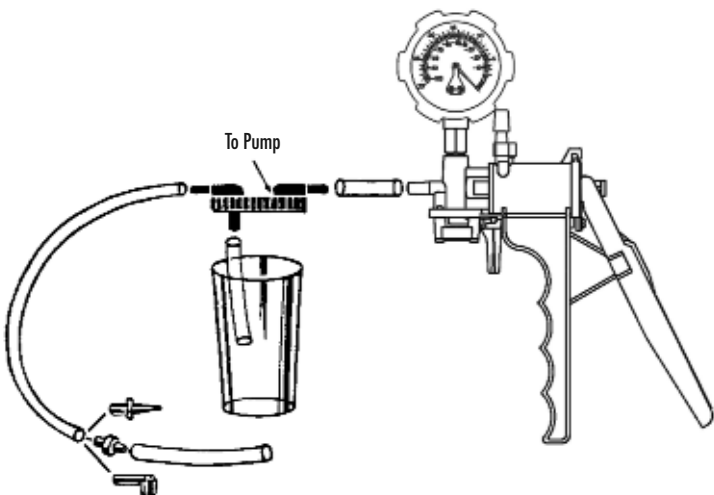

FIGURE 15: BRAKE BLEEDING KIT
3) Slip 1½" of tubing between the pump and the lid of reservoir jar at port marked "TO PUMP" (FIGURE 15).